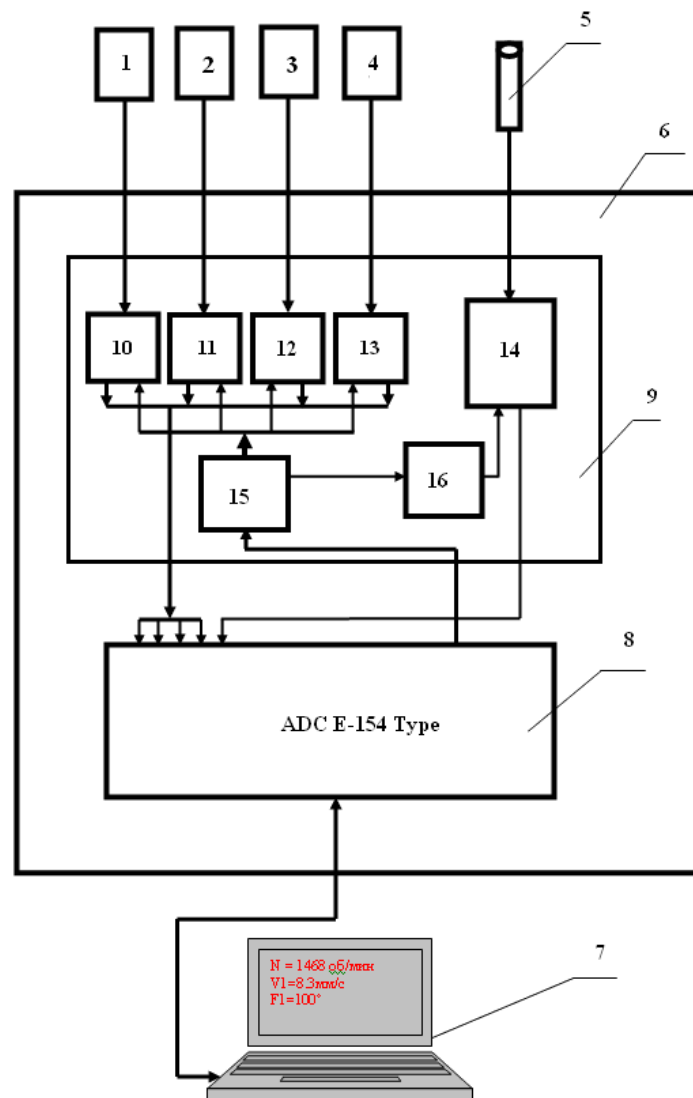

Fig. 4.3. Functional diagram of the BALANCER “Balanset-4”.
4.2. Functional diagram of the BALANCER is shown in Fig. 4.3.